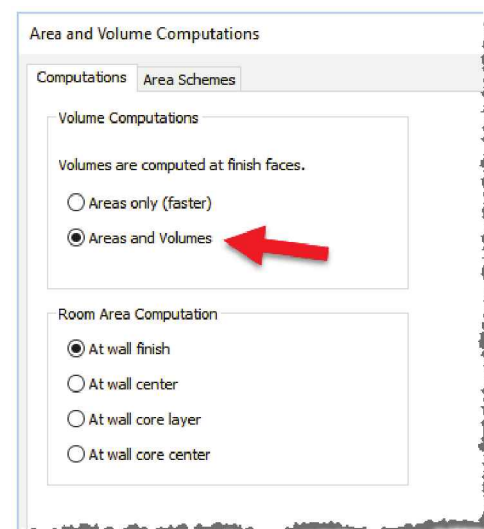

FIGURE 12-1.2 Setting Areas & volume
3. Select **Area and Volume Computations** as shown in Figure 12-1.2.